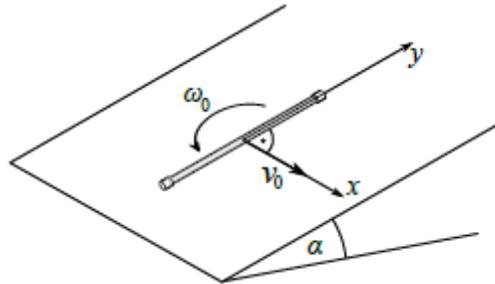

Figure 2: The initial conditions of the rod in section 3.
2. If α is infinitesimally small, the motion of the rod slightly changes: the motion of the center of mass is approximately the same as in the previous section but a constant drift velocity v_{drift} added to the solution. Use a coordinate system as in Figure 2.
3. If α is finite, the details of the motion of the rod changes. Place the rod on the inclined plane along the steepest line of the surface (so the rod is parallel with the inclined edges of the plane). Consider that the initial velocity v_0 of the center of mass of the rod is perpendicular to the axis of the rod and the initial angular velocity ω_0 is perpendicular to the surface as shown in Figure 2.
(a) Calculate the time evolution of the velocity $v(t) = (v_x(t); v_y(t))$ of the center of mass of the rod in the Cartesian coordinate system shown in Figure 2. (0.8 points)